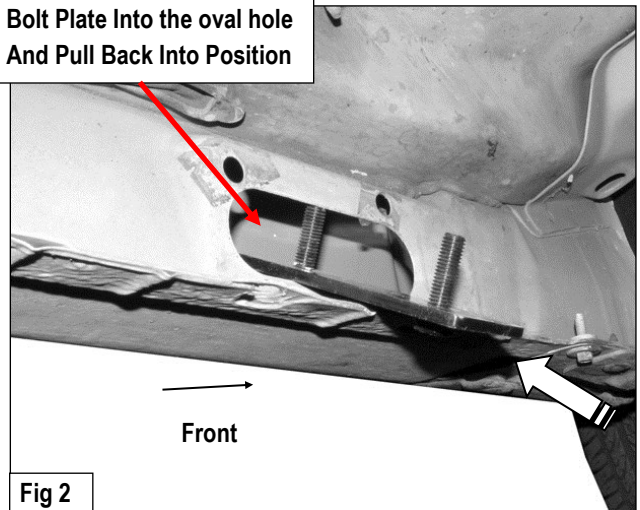
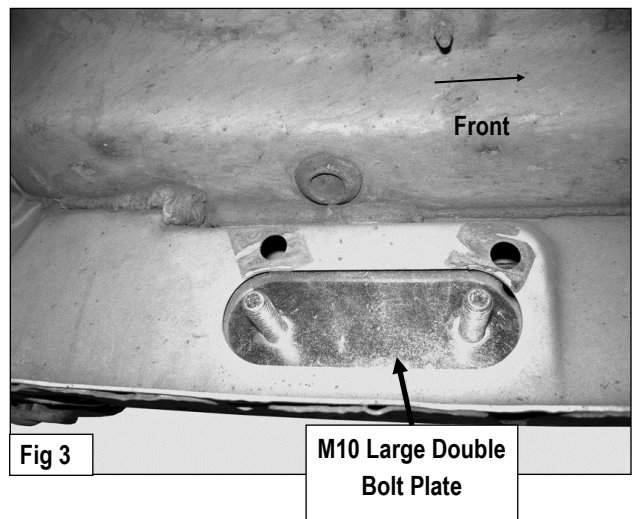

Fig 2
Fig 3
Starting on the driver side front mounting location of the vehicle. Remove the large oval rubber cover located on the inner side of the body panel, (Fig 1). Insert (1) M10 Large Double Bolt Plate into the oval hole, (Fig 2) and pull it back into position against the inner body panel, (Fig 3).